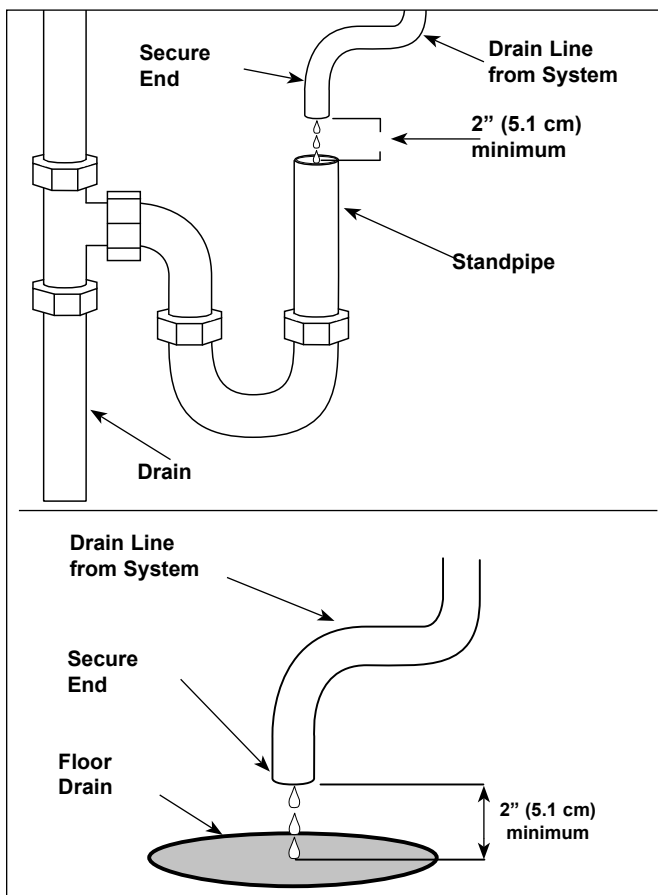

Figure 3. Proper Drain Plumbing
- The drain line plumbing must be position and secured at least 2 inches above the drain (Figure 3). This air gap protects the system from contamination in the event of a backed-up drain.